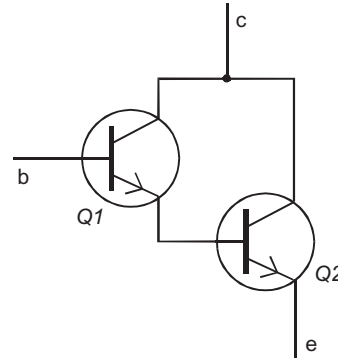

FIGURE 38.19
- 10 In the circuit Figure 38.19, c is several volts positive of e. A current of  $50\text{ }\mu\text{A}$  flows into b. The gain of Q1 is 150 and the gain of Q2 is 100. The current flowing into c is:
- 11 The circuit in Figure 38.19 is called: